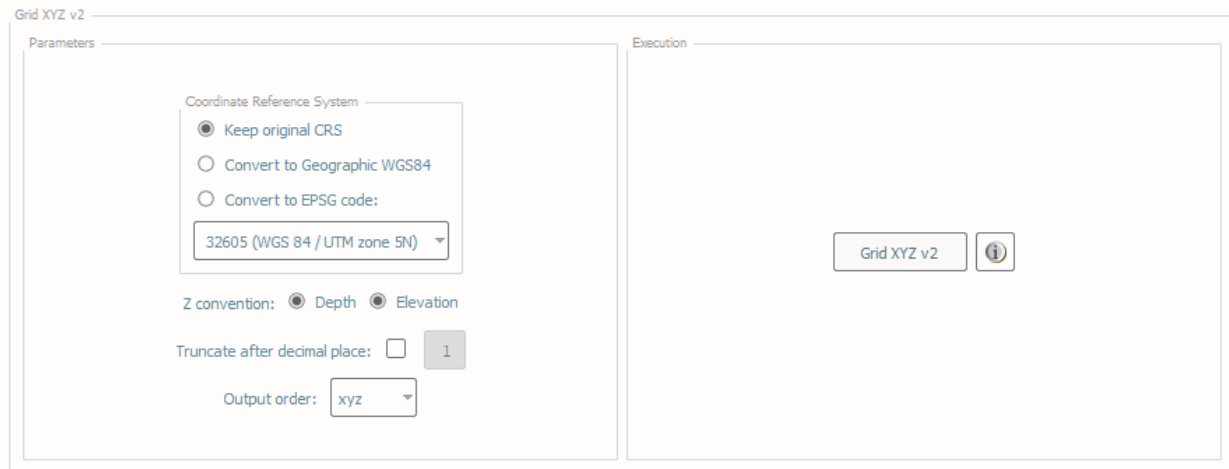

Fig. 2.40: Grid XYZ's interface.
- In **Execution** (Fig. 2.40), click **Grid XYZ v2**.